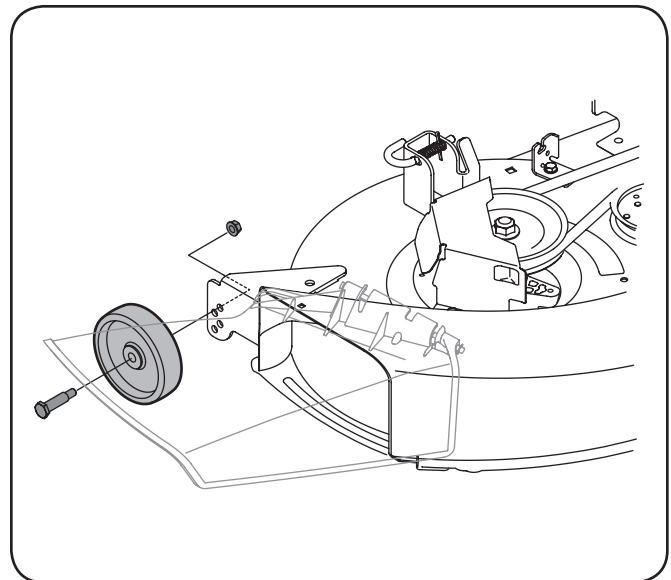

Figure 3-11
- b. Remove the gauge wheels by removing the lock nuts and shoulder screws which secure them to the deck. See Fig. 3-11.